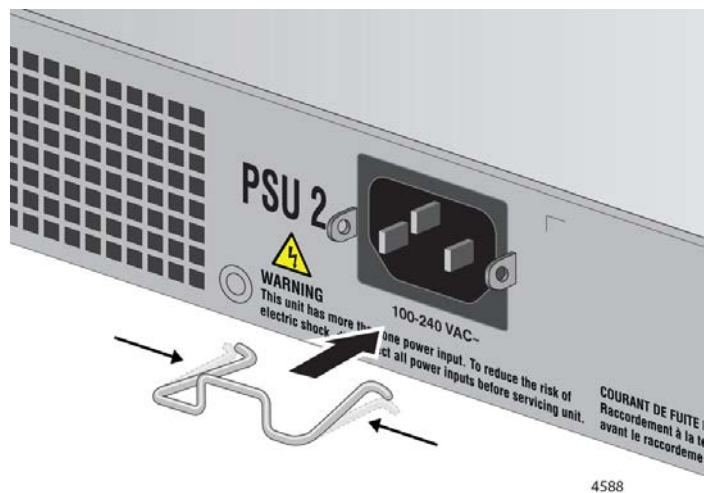

Figure 60. Installing the Power Cord Retaining Clip
1. Install the power cord retaining clip on the AC power connector on the rear panel of the switch. Refer to Figure 60.